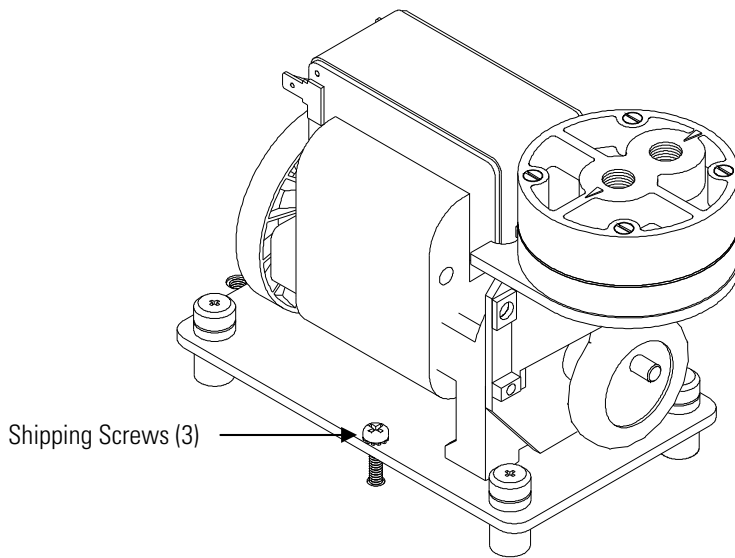

Figure 2-2. Removing the Shipping Screws
4. Remove the three shipping screws from the pump (Figure 2-2).